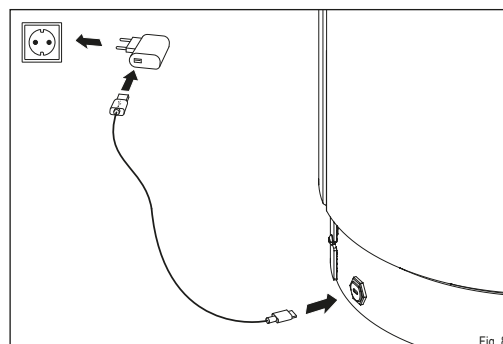

Fig. 8
- **Connect the USB-C cable to the socket on the stove and the mains plug (Fig. 8).**
- **Connect the mains plug to the mains (Fig. 8).**